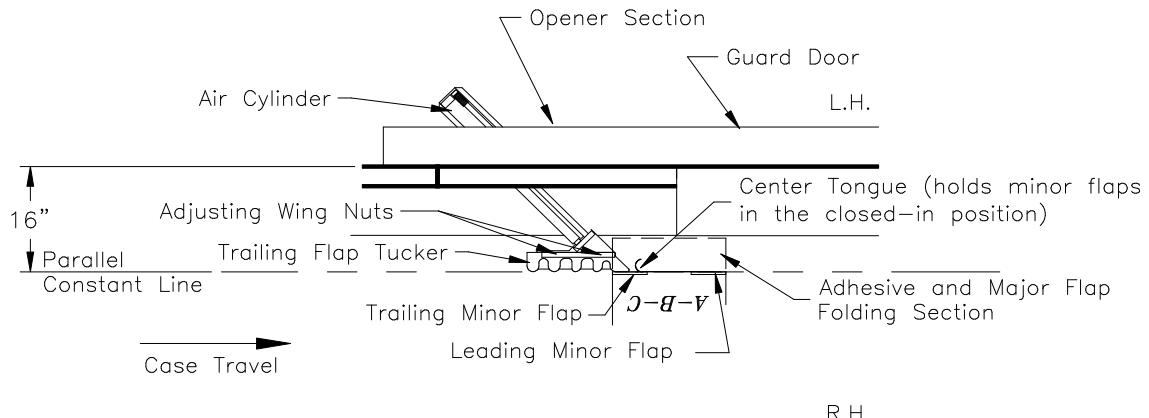

FIGURE 4.5 - ADJUSTING TRAILING FLAP TUCKER (CONT.)
- Next, fully extend the air cylinder until the front of the lobes are parallel with the parallel constant line of the machine (16" from the left hand side). Move the case along until the leading minor flap is folding, but ensure that this flap does not hit the flap tucker and form a pinch point as it is closing (readjust if necessary). Continue to move the case forward, now make sure that the flap tucker can hold the trailing minor flap in until it reaches the center tongue (to avoid the trailing minor flap from springing back out before it gets to the glue head or folding bars). See figure 4.5.